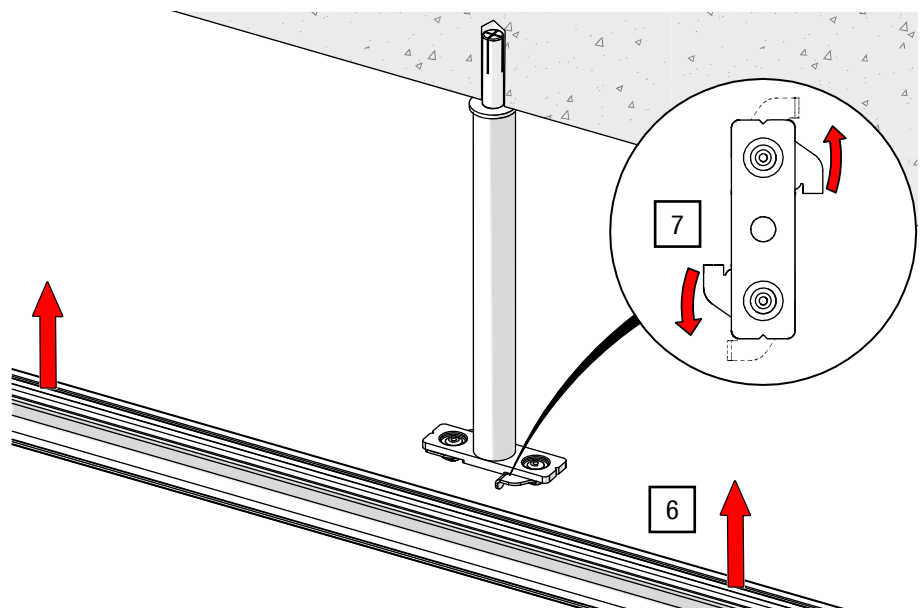

Fig. 36: Ceiling suspension – Lift track and lock ceiling mount bracket
6. Position the track at the target location (see Fig. 36).
7. Lock the ceiling mount bracket onto the track using the side handles (see Fig. 36).